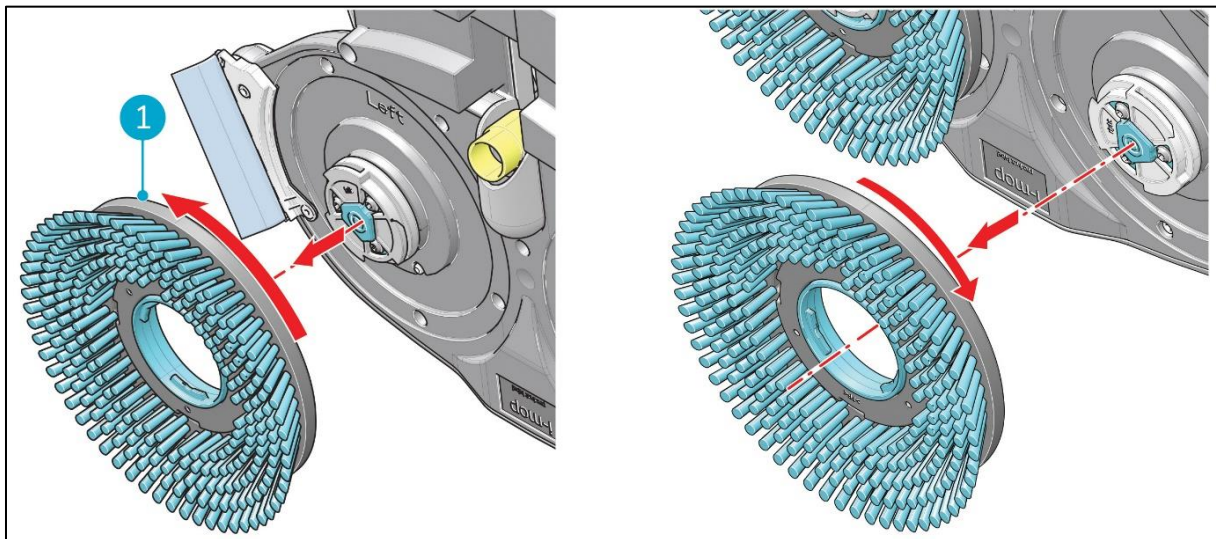

Figure 23
3. Using your other hand to turn the left brush (Figure 23, pos 1) anticlockwise until you feel resistance or see the motor disk turning as well.